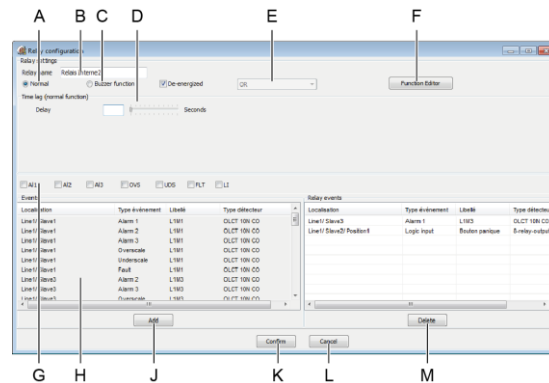

Figure 25: Relay configuration window
1. With the *Relay configuration* window open (Figure 25, A), check that the relay to be programmed is selected (Figure 25, B).
2. If necessary, sort the list of events (Figure 25, H) using the filters (Figure 25, G).